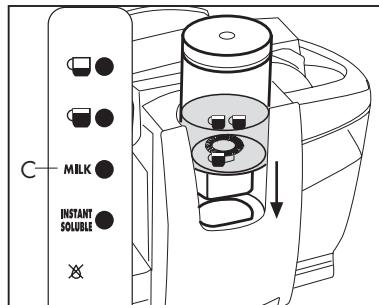

Fig. 12
With this function you can heat milk to 65°C with thermostat-controlled steam and whip it into foam; thick foam can thus be obtained for cappuccino, chocolate or other soluble beverages, maintaining the properties of the foods. Pour the milk into the beaker between the level indicated by the cups, completely insert the beaker with the whisk (10) in its seat, press the button **MILK** (C) and wait until preparation is finished (**Fig. 12**).